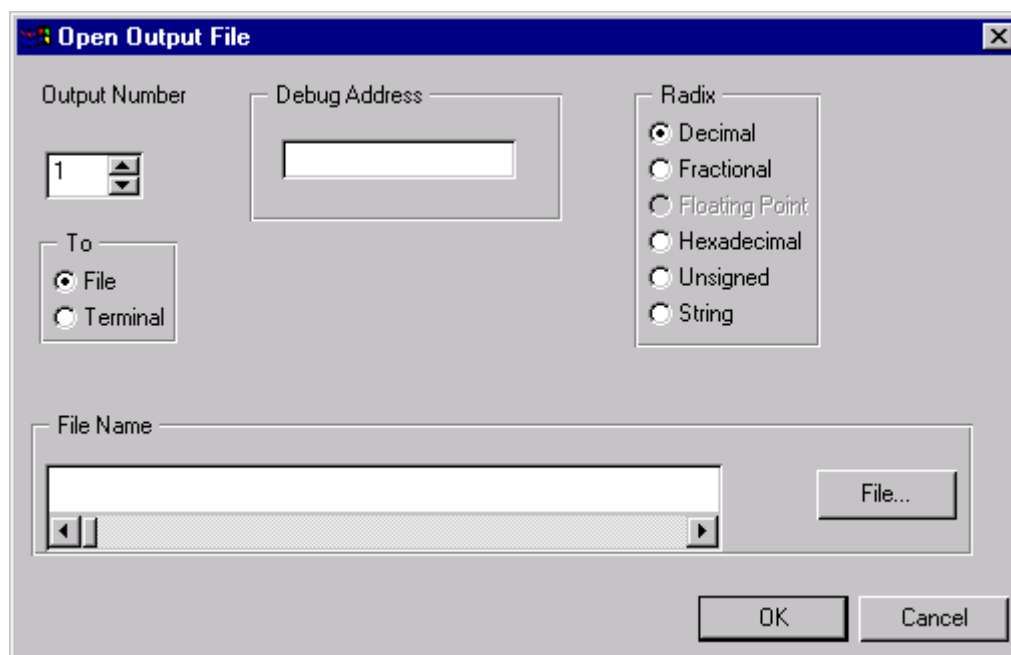

Figure 6-2. Creating an Output File
- From the **File** menu choose **Output**, then select **Open**. The dialog box in Figure 6-2 appears.